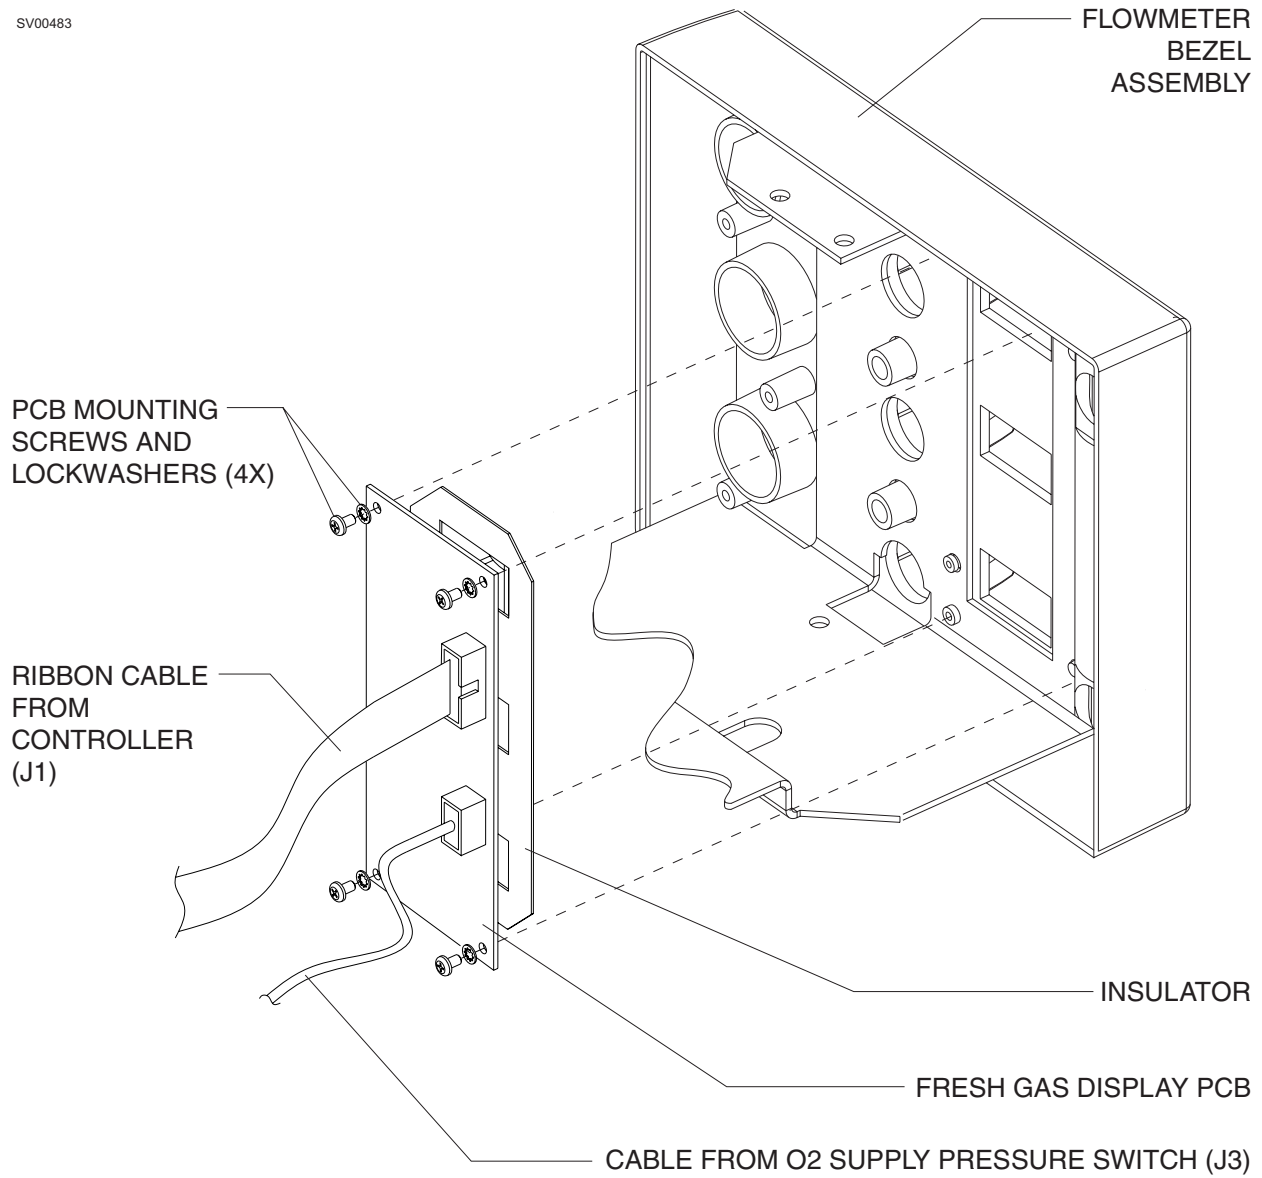

Figure 5-27. Fresh Gas Display PCB
Access to the fresh gas display PCB requires removal of the flow meter bezel assembly as described in Section 5.13. Figure 5-27. shows the cable connections and PCB mounting details. For clarity, other sub-assemblies are not shown in the illustration.
- 5.19.5 Disconnect the cables from the fresh gas display PCB where shown in Figure 5-27. .